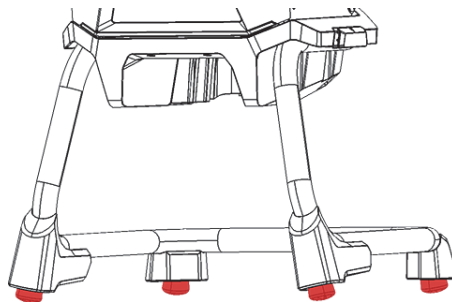

Figure B-9 Work Station leveling feet
5. If necessary, use the leveling feet to stabilize the Work Station (see Figure B-9 on page 114).